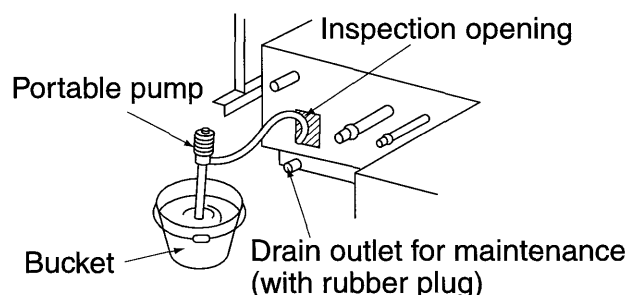

Fig. 17
- Open the inspection opening, add approximately 1000 cc of water slowly into the drain pan and check drainage flow. (Refer to Fig. 17)